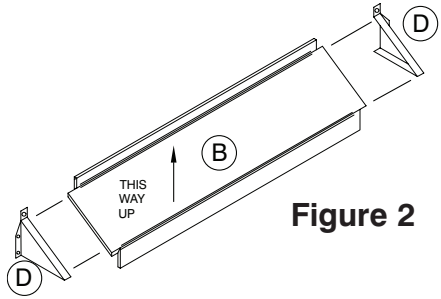

Figure 2
STEP 2: Attach the sneeze guard support angles **(D)** to each end of the sneeze guards **(B)** using the Glass Clips and Dome Cap Screws that are on the inside of the Angle Brackets. There will be two right side Angle Brackets and two left side Angle Brackets. **Figure 2.**